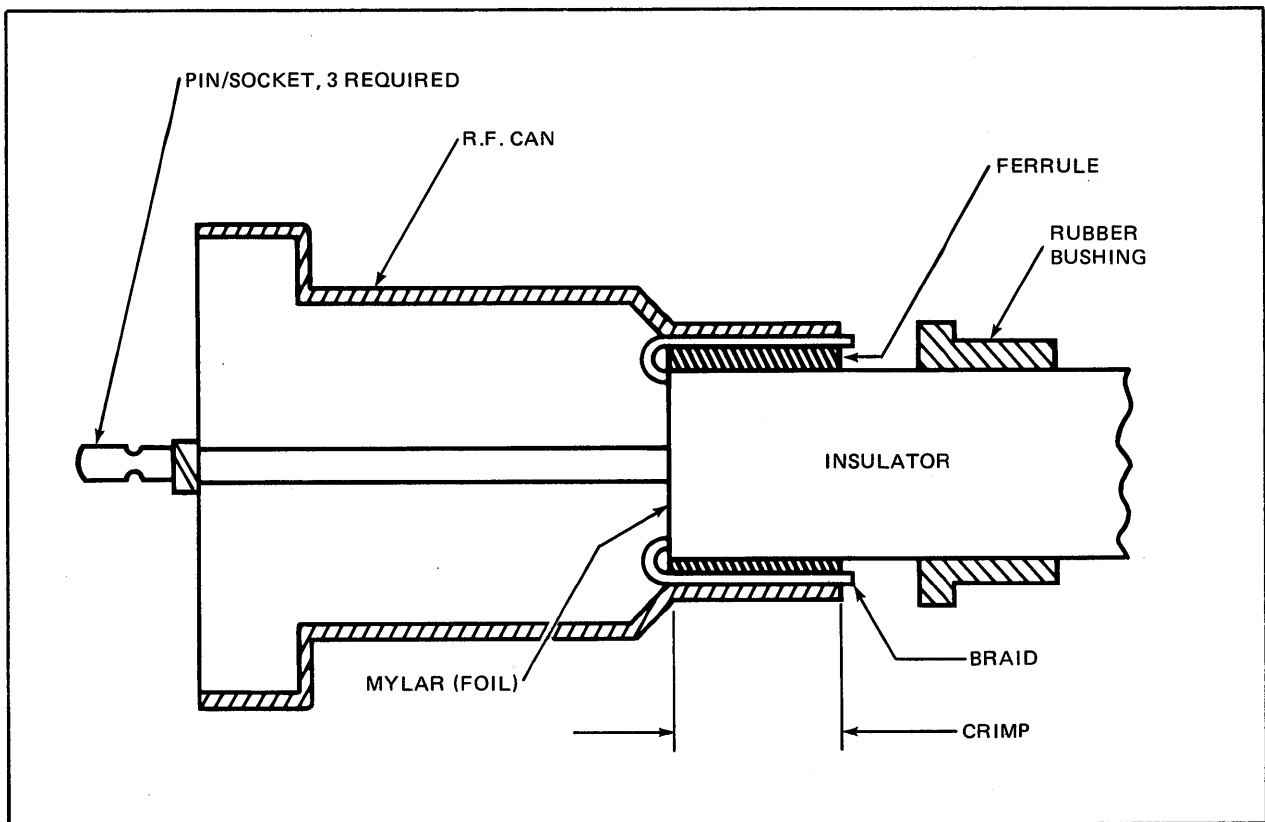

Figure D-7. RF Can Crimped to 3-wire Cable
3. Attach the RF can to the shield as shown in Figure D-7.
- a. Slide the ferrule back over the insulation, until it is flush with insulation as in Figure D-7.
- b. Spread the braid and wrap it back evenly over the ferrule as in Figure D-7.